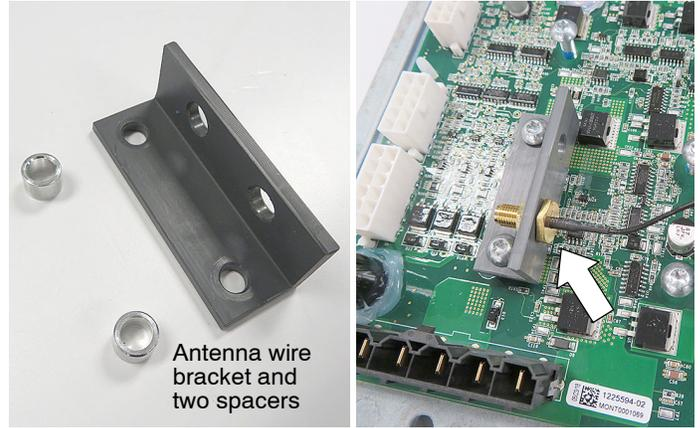

Fig. 7
- Install the new IRIS circuit board to the heat-sink panel using existing hardware. Attach the antenna wire bracket to the board and connect the antenna wire from the IRIS circuit board as shown (Figure 7).